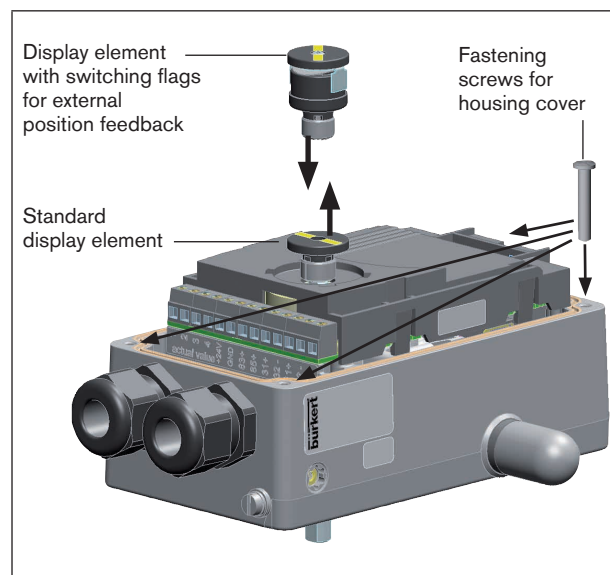

Fig. 1: Replacing display element
- Remove the standard display element from the spindle (see "Fig. 1").
- Push the display element with switching flags for the external position feedback all the way onto the spindle (see "Fig. 1").